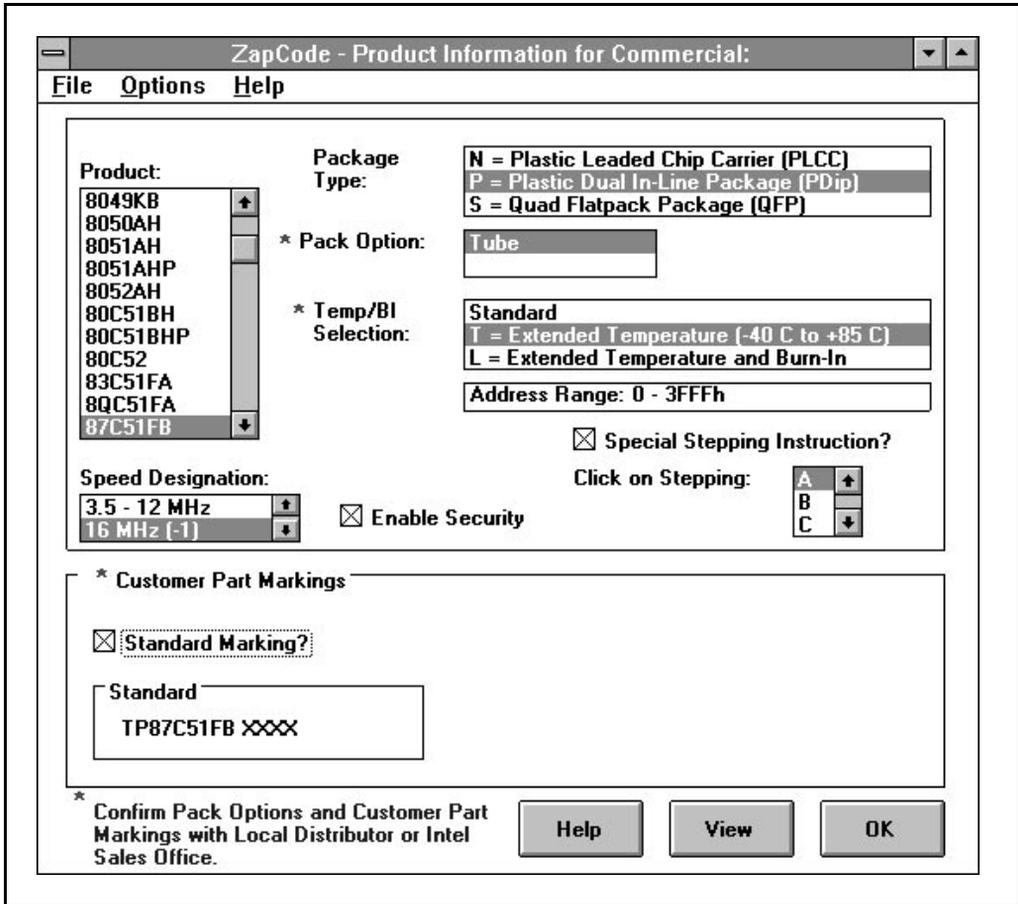

Figure 8-7. Example of a Product Screen With Only Standard Marking Showing
- a. **Standard Marking:** This is the default for marking. Click on the **Standard Marking?** box and the Custom entry boxes disappear from the screen, and the standard marking for the device appears in the **Standard** box. Figure 8-7 shows an example of a selection for Standard marking with the Custom boxes hidden.